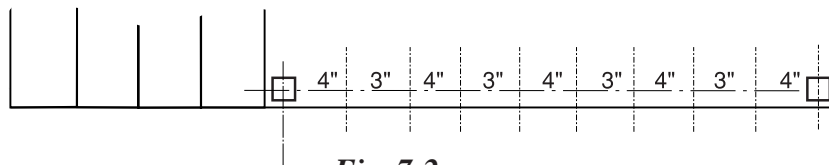

Fig. 7-2
6. Using a plum bob, transfer the marks for the balusters to the bottom of the rail. Please note Fig. 7-2 here.